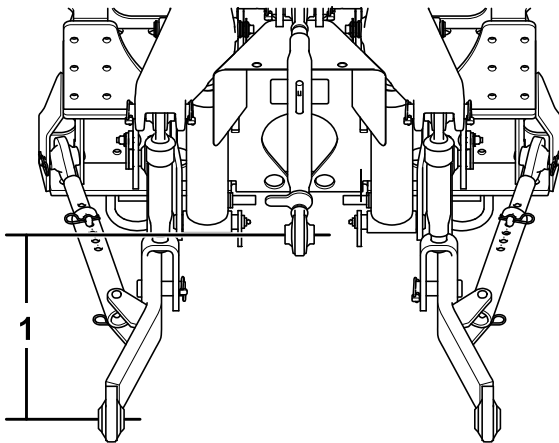

Figure 11
1. Determine the height of your tractor mast as shown in Figure 11.